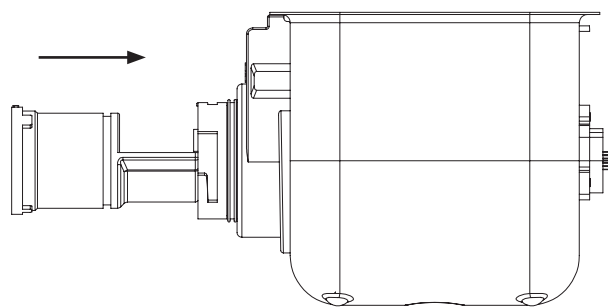

Fig. 2
2. Install the Discharge tube as shown in Fig 2. Keep the opening of the discharge tube facing upwards and push the discharge tube to the right.